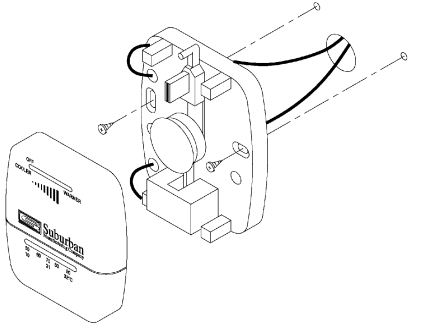

Figure 7 - Mounting Thermostat to Wall
- Attach thermostat to wall using screws provided (see Figure 7)